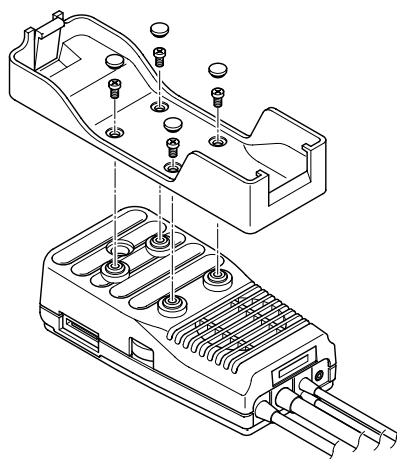

Figure 29: Holder removal
4. (Figure 29) Reinstall the holder onto the handsfree unit (4 screws).